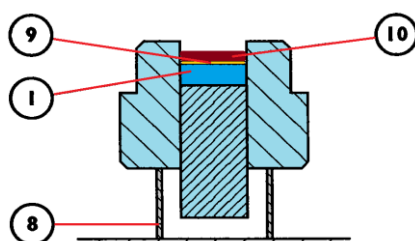

Figure 5.
The micro and ultra-micro frames are also circular with a 13mm o.d. but they have a rectangular aperture of 2mm x 11mm and 1mm and 4mm respectively. When using the micro or ultra-micro frames it is recommended that the die be loaded on the extractor ring (8) as shown in Figure 5. The die is assembled inverted with the pellet (1) and ultra micro frame in place. The aperture is carefully filled with the powder sample such that it is heaped 1 to 2mm above the surface of the frame (9). The bottom pellet (1) is then put into place and the base (2) is fixed to the cylinder body assembly. This whole assembly is then turned the right way up ready to be pressed.